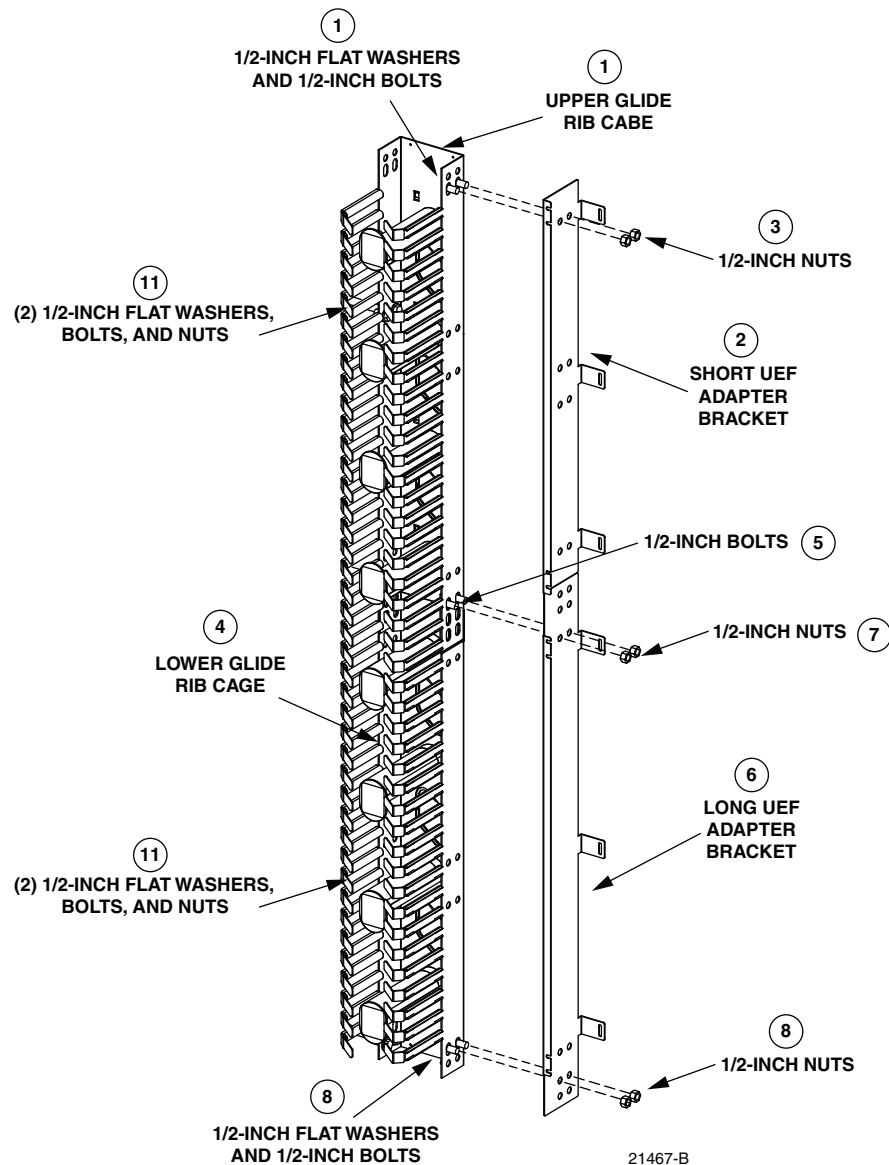

Figure 2. UEF Glide Cable Management Assembly
1. Place a 1/2-inch flat washer on two 1/2-inch bolts. Insert bolt and washer assemblies through two of the slotted holes in the top of the upper glide rib cage. Stepped end of upper glide rib cage is the bottom and will point down, when installed on the rack. See Figure 2.
4. Stepped end of lower glide rib cage is the top and will point up. Slide lower glide rib cage up against the upper glide rib cage. Lower glide should be positioned over upper glide rib cage. See Figure 2.
8. Place a 1/2-inch flat washer on two 1/2-inch bolts. Insert these bolts through two lower unused slotted holes in the glide rib cage and longer UEF adapter bracket. See Figure 2. Thread a 1/2-inch nut on each bolt, leave nuts finger tight.